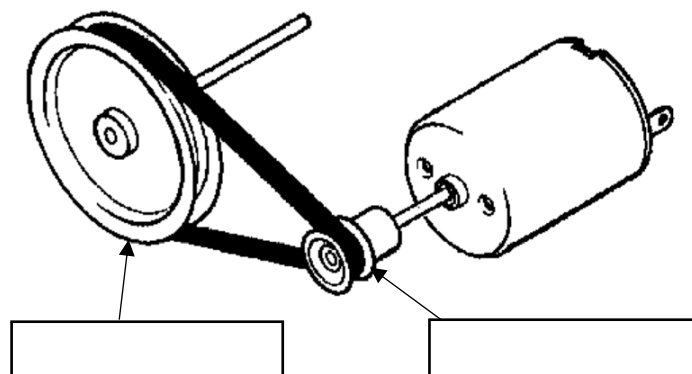

Figure 6: Pulley and belt system
b. Label the different parts in the pulley and belt system shown in the Figure 6 below.